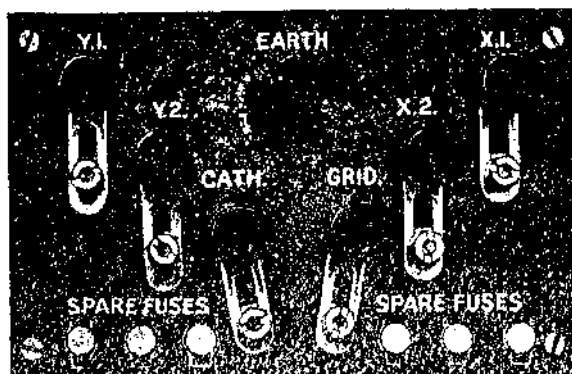

Fig. 4. CRT connecting link panel
3. 2 amp. cartridge fuses (fuse Type 13, 10H/10269) must be used for 230 volts operation, and 3 amp. cartridge fuses (fuse Type 28, 10H/1804) for 115 volts operation. Insert the correct fuses in the fuseholders on the front panel. Spare fuses are stored below the tube connecting panel at the rear of the instrument (see fig. 4).
28. For special applications of the oscilloscope connecting links are provided to give direct access to the cathode, grid, X1, X2, Y1, and Y2 electrodes of the CRT. The links, together with an earth terminal, are mounted on a panel behind the door at the back of the oscilloscope (see fig. 4).